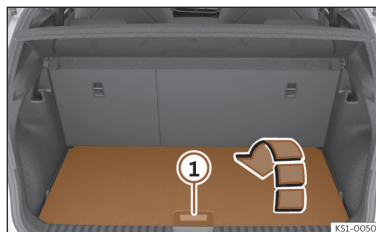

Fig. 164 In the luggage compartment: open the second luggage compartment floor.
- To *open it*, grasp the handle >>> **Fig. 164** ① and fold the rear of the luggage compartment floor forwards in the direction of the arrow.
- To *close it*, fold out the luggage compartment floor and set it down carefully >>> ①.